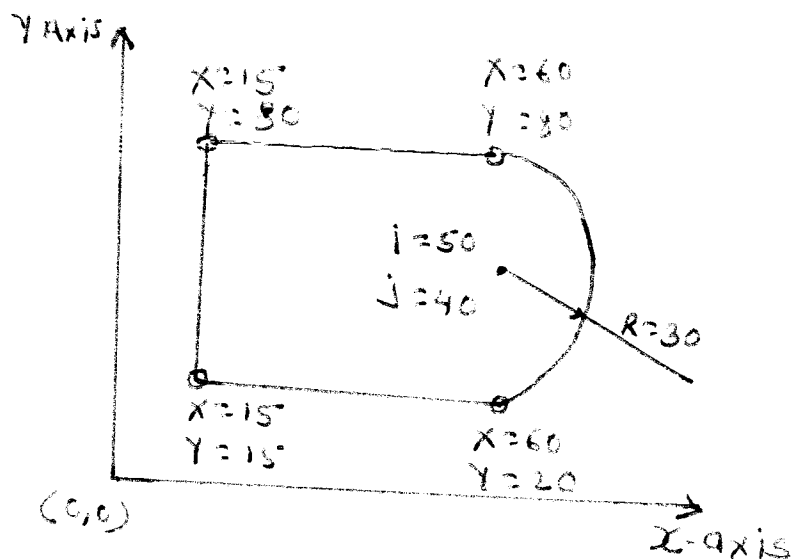

Fig: 2
- Q.4 Write a program for the given profile on a CNC vertical milling machine (fig. 2) (10)